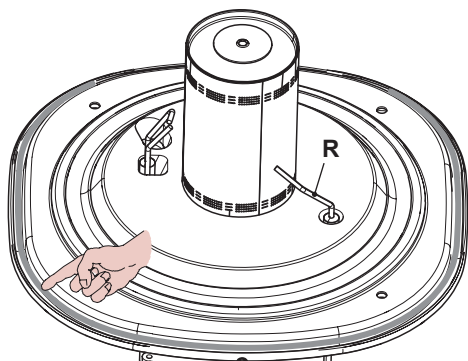
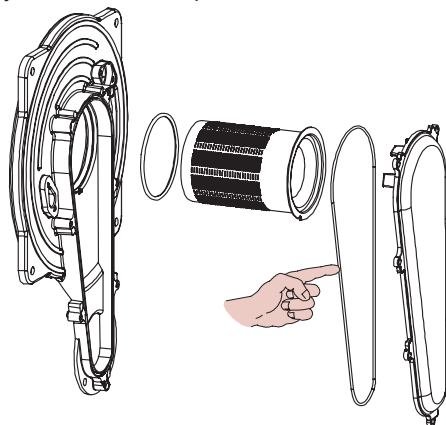

Fig. 9.10
Fig. 9.12
- The detection electrode R in Fig. 9.10 also functions as a sensor for the correct drainage of the condensate.
**Caution:** After any periodical servicing or disturbance the combustion chamber silicon seal (Fig. 9.10) and the Air-gas duct gasket (Fig. 9.12) must be fully inspected and replaced at the discretion of the service engineer.